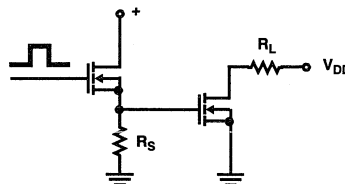

FIGURE B-2. VOLTAGE-FOLLOWER GATE-DRIVE CIRCUIT
**Case 2: Voltage-Follower Gate Drive, Figure B-2**